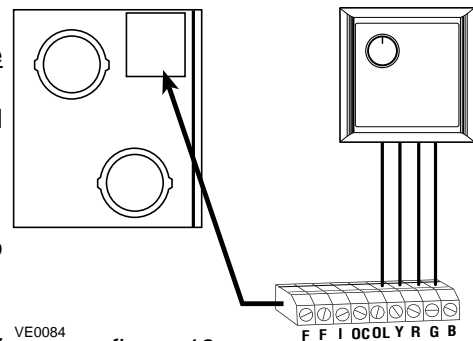

figure 18
- 7- Connect the wires to their corresponding position inside the electrical compartment. Make sure the connections of the unit and of the wall control correspond exactly. (See figure 18)